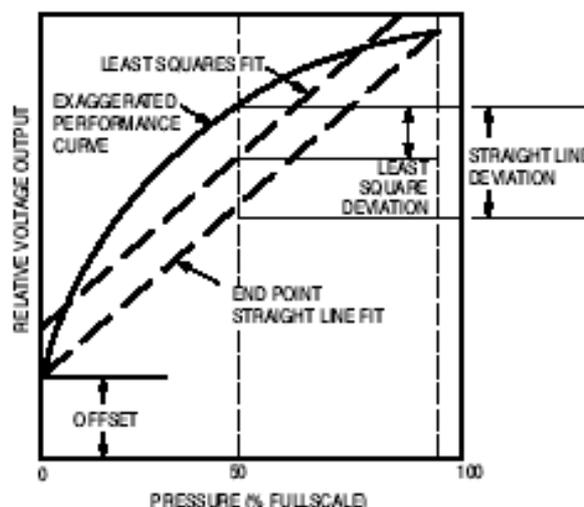

Figure 2. Linearity Specification Comparison
Linearity refers to how well a transducer's output follows the equation: $V_{out} = V_{off} + sensitivity \times P$ over the operating pressure range. There are two basic methods for calculating nonlinearity: (1) end point straight line fit (see Figure 2) or (2) a least squares best line fit. While a least squares fit gives the "best case" linearity error (lower numerical value), the calculations required are burdensome.